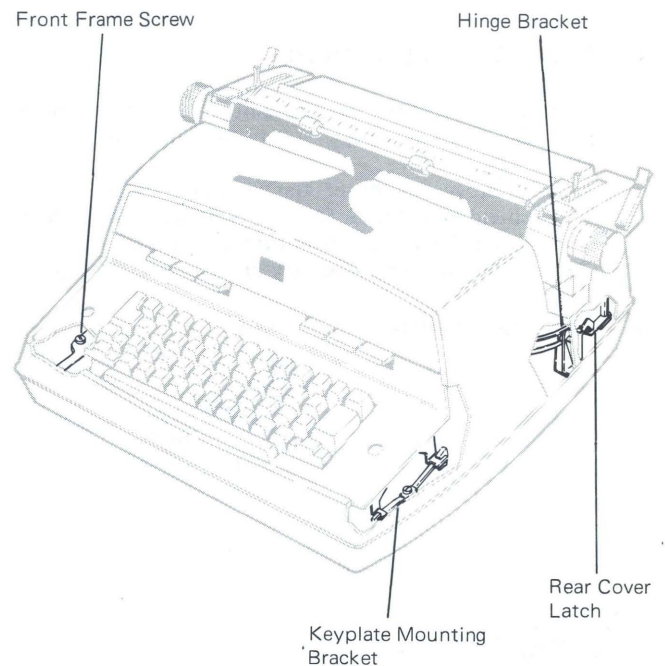

Figure 1 – Cover Removals
1. Remove the rear cover. Place a screwdriver between latch lugs and pull down (Figure 1).